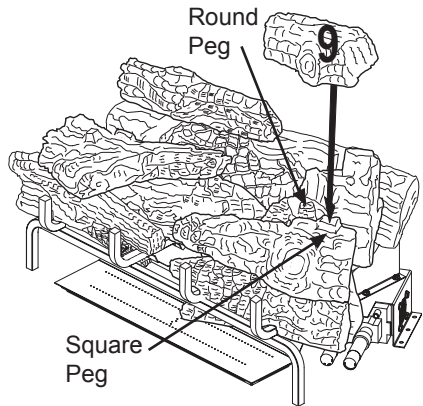

Figure 45 - Installing Log # 9
- Place the top right log (#9) on top of the right rear chunk log (#7) and front right mid log (#8) as shown in Figure 45. Match the round peg on the top of the right rear chunk log (#7) with the round hole on the bottom of the top right log (#9) and square peg on the top of the front right mid log (#8) with the square hole on the bottom of the top right log (#9).